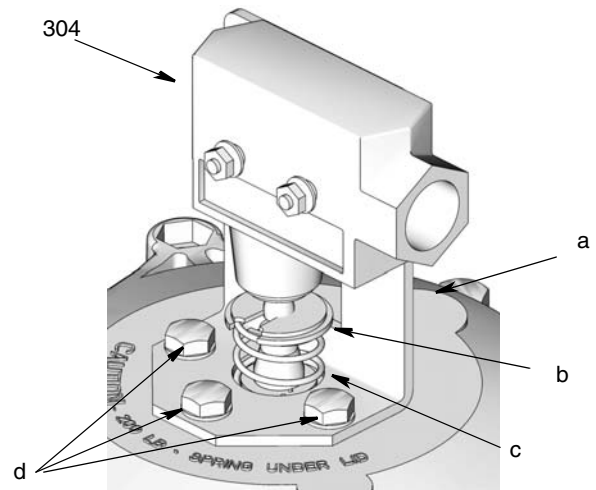

FIG. 12
Refer to FIG. 12 for reference numbers used in the following instructions.
1. Attach bracket (a) to grease reservoir cover using three self-tapping screws (d) (FIG. 12).
2. Place spring (c) (FIG. 12) over tip of level indicator.
3. Compress spring (c) and place retainer ring (b) between spring and tip of level indicator (FIG. 12).
4. Attach low level switch (5) to bracket (a) (FIG. 12).